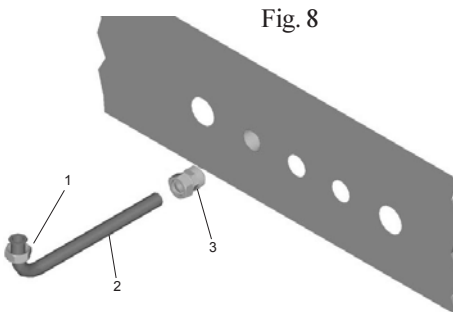

Fig. 8
- Use the relevant devices (no. 1 in figure 8) to connect the pipes (no. 2 in figure 8) included in the kit
- Use the “double-cone” fittings (no. 3 in figure 8) to connect the pipes to the wall-mounted “female” connections